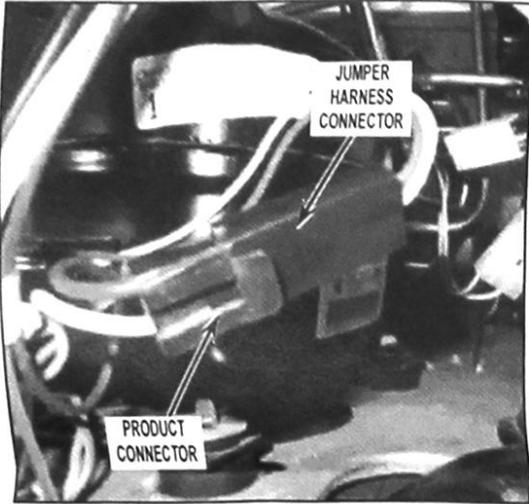

FIGURE 5
- Connect jumper harness connector with product connector. See Figure 5.